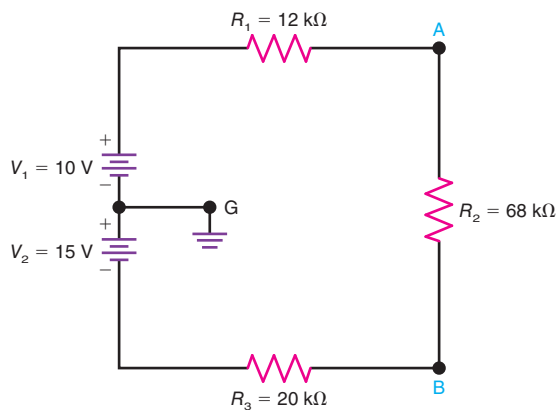

Figure 8-18
8.9 In Fig. 8-18, solve for the voltages V_{AG} and V_{BG} . Indicate the proper polarity for each voltage.